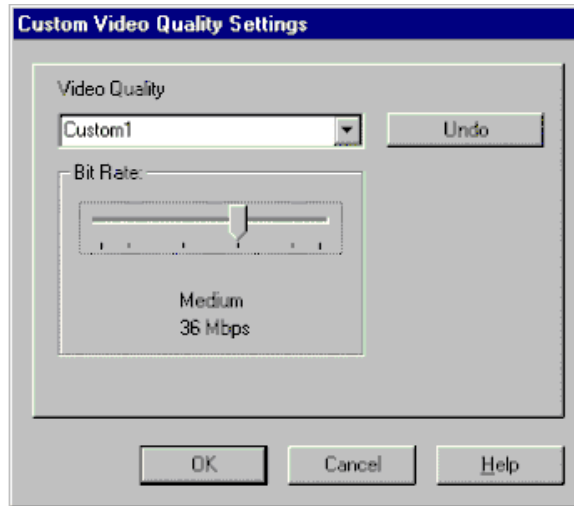

Figure 151. Custom Video Quality Settings dialog box, JPEG
- For JPEG (see Figure 151 and Table 18), select a video quality with the slider.